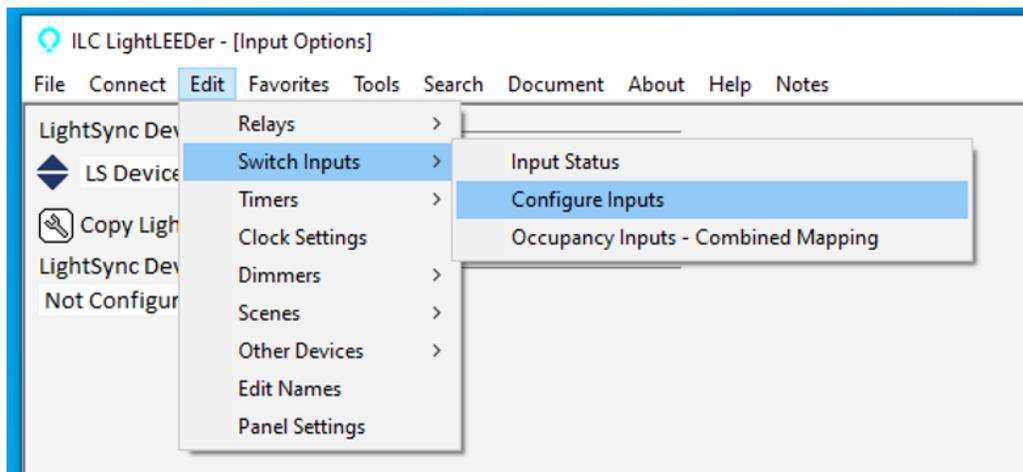

Figure 1
- B. In the ILC software a programmer will go to: **Edit, Switch Inputs, Configure Inputs** shown in Figure 1